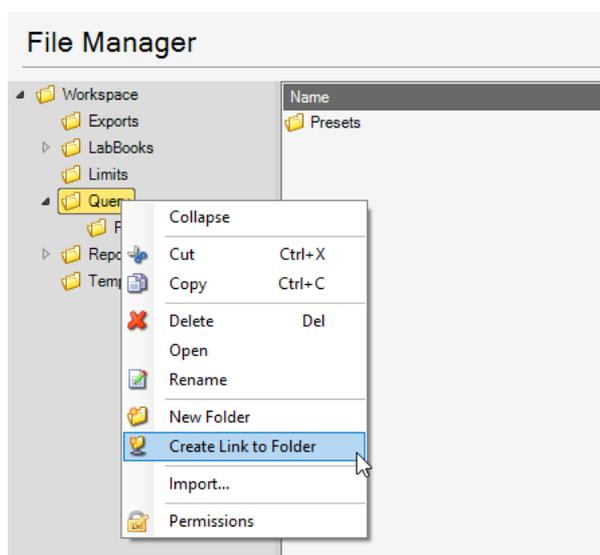

Figure 4-59. Shortcut menu File Manager subfolder showing Create Link to Folder
2. Select **Create Link to Folder** from the shortcut menu, see Figure 4-59.